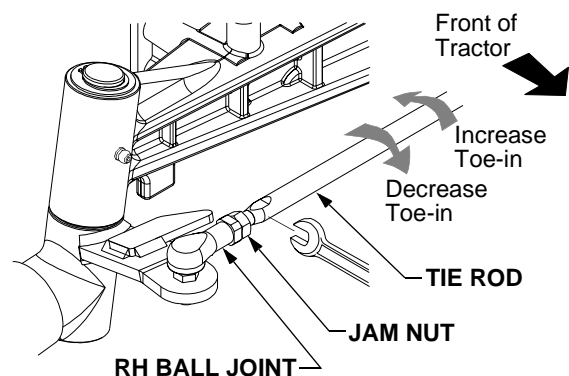

Figure 32
- Loosen the jam nuts at both the LH and RH ball joints. See Figure 32.
Rearward to shorten the tie rod and increase the toe-in. See Figure 32.
Forward to lengthen the tie rod and decrease the toe-in. See Figure 32.